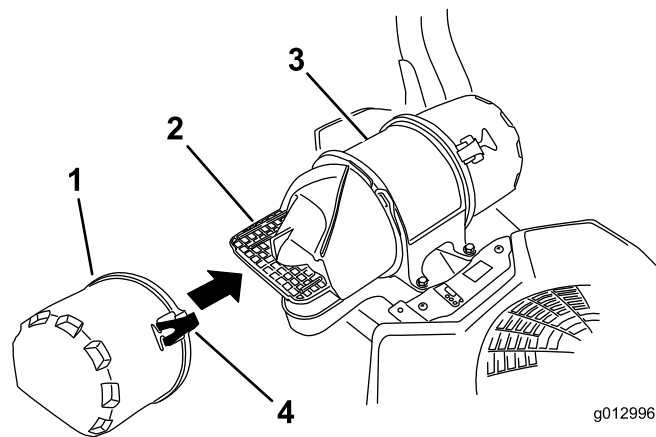

Figure 42
3. Release the latches on the air cleaner, and pull the air-inlet cover off the air-cleaner body (Figure 42).
5. Install the air-inlet cover and secure it with the latches (Figure 42).